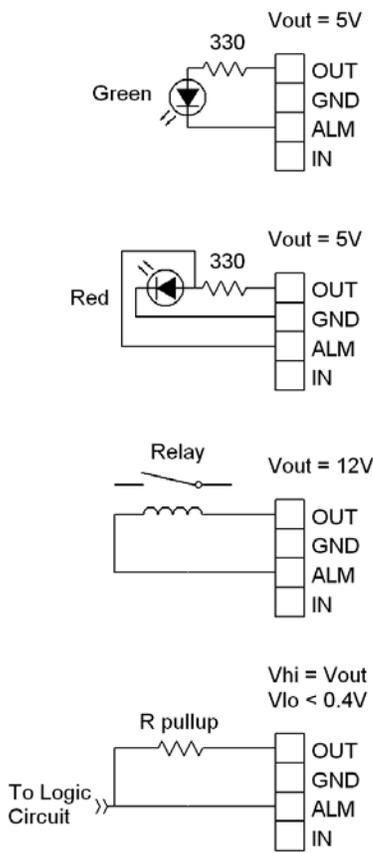

Figure 2: Alarm Configuration Examples
Alarm Conditions and Connections (See Figure 2): The alarm output is a normally open (NO), open collector referenced to isolated ground. When no alarm condition is present, the relay is closed and can conduct up to 100 mA DC of load current. When the alarm is triggered, the transistor opens and can support up to 100 VDC across its terminals.